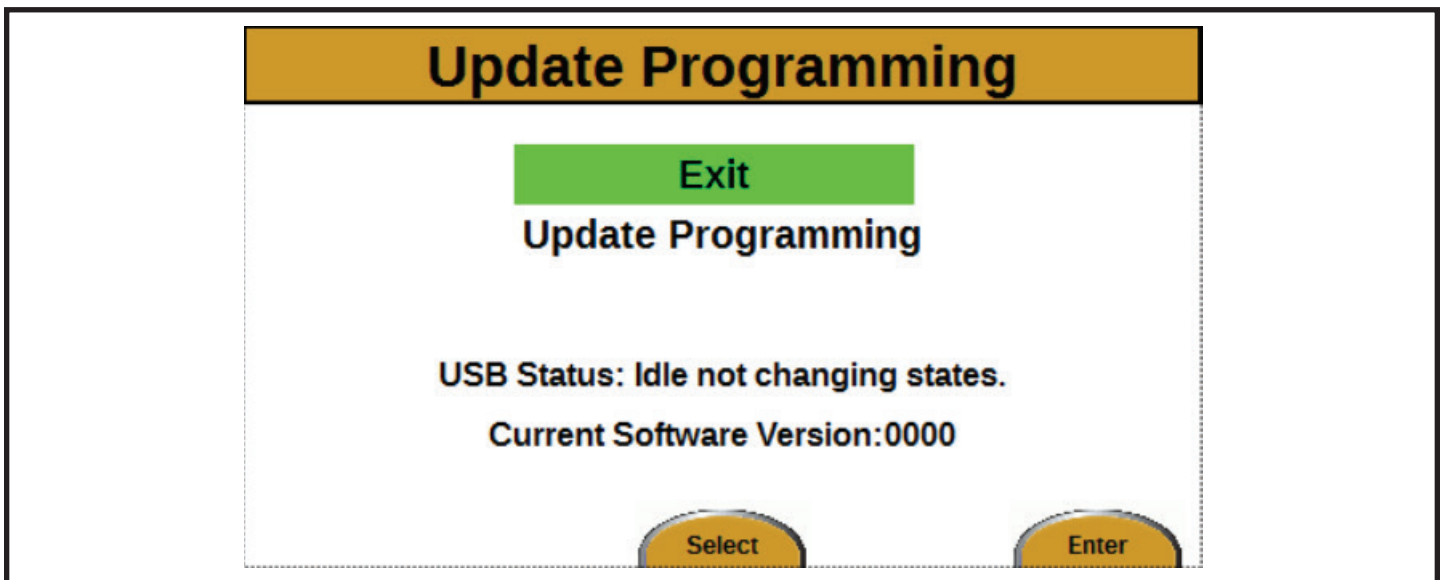

Figure 13
4. Press the Enter button. The Update Programming screen will appear (see Figure 13).